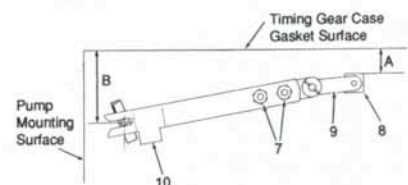

Fig. 134A—Refer to text for correct positioning of control lever arms (6, 9 and 10) before tightening bolts (7).
Fig. 134A), measured between lower fork arm (8) and gasket surface of timing gear case, should be 26 mm (1.024 in.) with throttle in closed (low idle) position. Dimension (B—Fig. 134A), measured between center of slot in governor arm (10) and gasket surface of timing gear case, should be 48 mm (1.890 in.). **Model 1110:** Dimension (A—Fig. 134A) should be 27.4 mm (1.078 in.) and dimension (B) should be 57.5 mm (2.265 in.) with throttle in closed position.